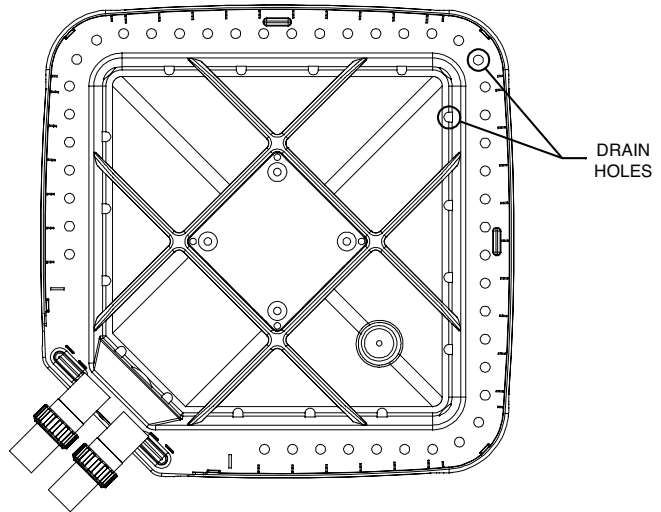

Fig. 7: Condensate Drain Hole Locations
1. Routinely check to be sure the condensation drain holes in the base of the unit are not plugged with dirt or debris. See Fig. 7 for condensate drain hole locations.